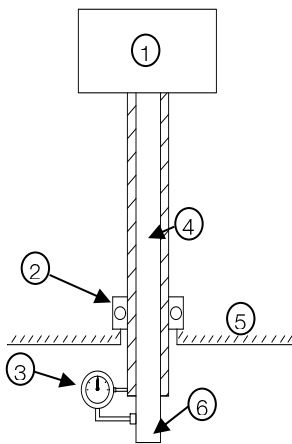

Figure 4.12: Alignment of motors with hollow shaft
1. Fix the dial gauge by its magnetic base to the pump shaft and align it with the base surface (motor shaft), setting the dial gauge to zero (Figure 4.12);
### Figure 4.12 legend: